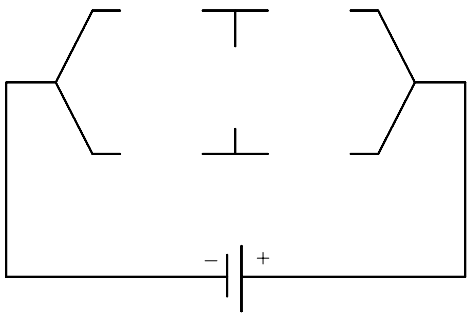

Figure 17-54 Electric circuit diagram without resistors for Exercise 2
1. Draw the electric circuit diagram, as shown in Figure 17-54 (assume the dimensions).